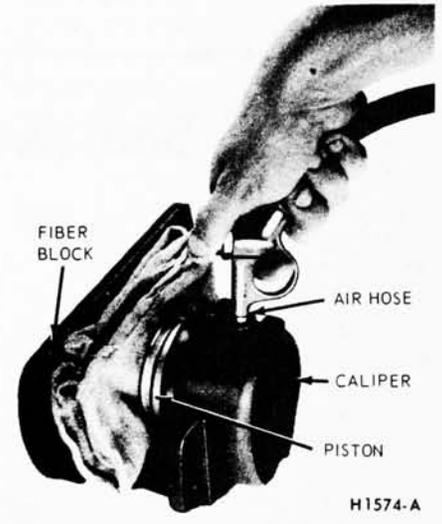

Fig. 10—Removing Piston from Caliper
6. Apply air pressure to the fluid port in the caliper as shown in Fig. 10 to remove the piston. Place a cloth over the piston before applying air pressure to prevent damage to the piston. If the piston is seized and cannot be forced from the caliper, tap lightly around the piston while apply-